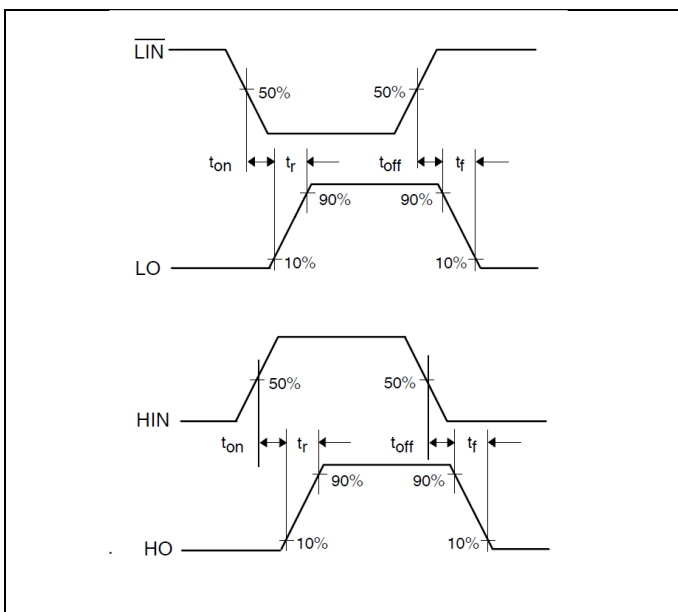

Figure 6 Switching timing diagram
The relationships between the input and output signals of the 2ED2108 (4) S06F (J) are illustrated below in Figure 6 and Figure 7. From these figures, we can see the definitions of several timing parameters (i.e.  $t_{ON}$ ,  $t_{OFF}$ ,  $t_R$ , and  $t_F$ ) associated with this device.